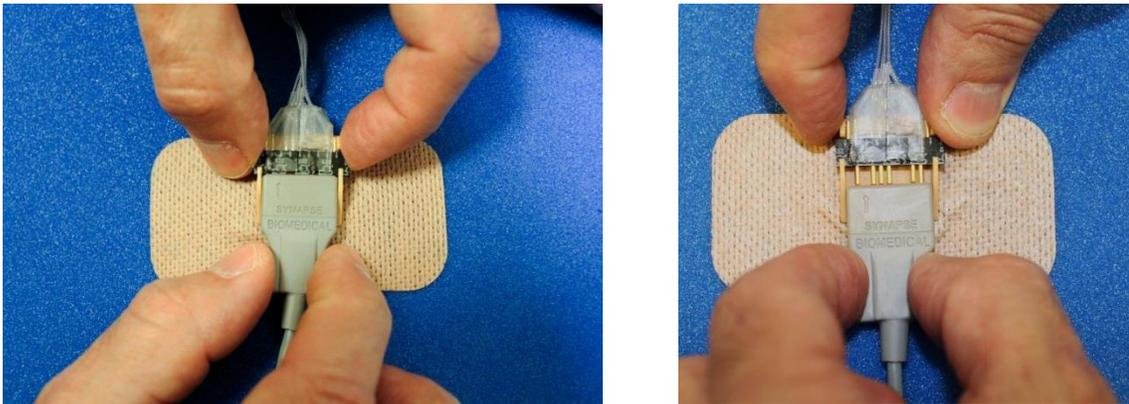

Figure 23
1. Before bathing, disconnect the patient cable from the electrode connector (Figure 23).